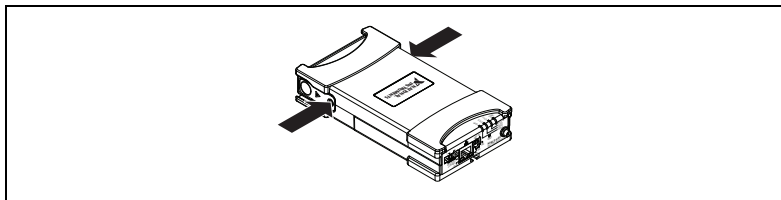

Figure 2. Locking Module into Place
4. Press firmly on the connector side of the C Series I/O module until the latches lock the module into the NI WLS/ENET-9163 carrier, as shown in Figure 2.